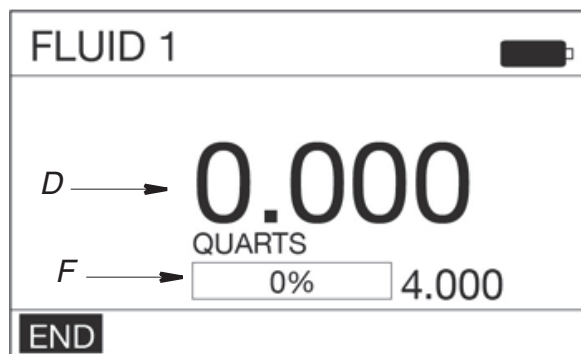

FIG. 68
2. If the meter recognizes the fluid voucher, the DISPENSE screen shown in FIG. 68 displays.
During the dispense the word END (FIG. 68) is highlighted on the lower left corner of the dispense screen. To interrupt the fill during dispensing: